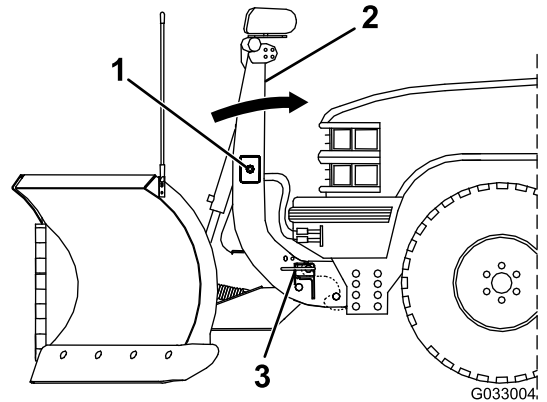

Figure 25
- Push the SmartHitch2 switch on the side of the coupler tower upward and raise the tower until the spring pins lock in (Figure 25).